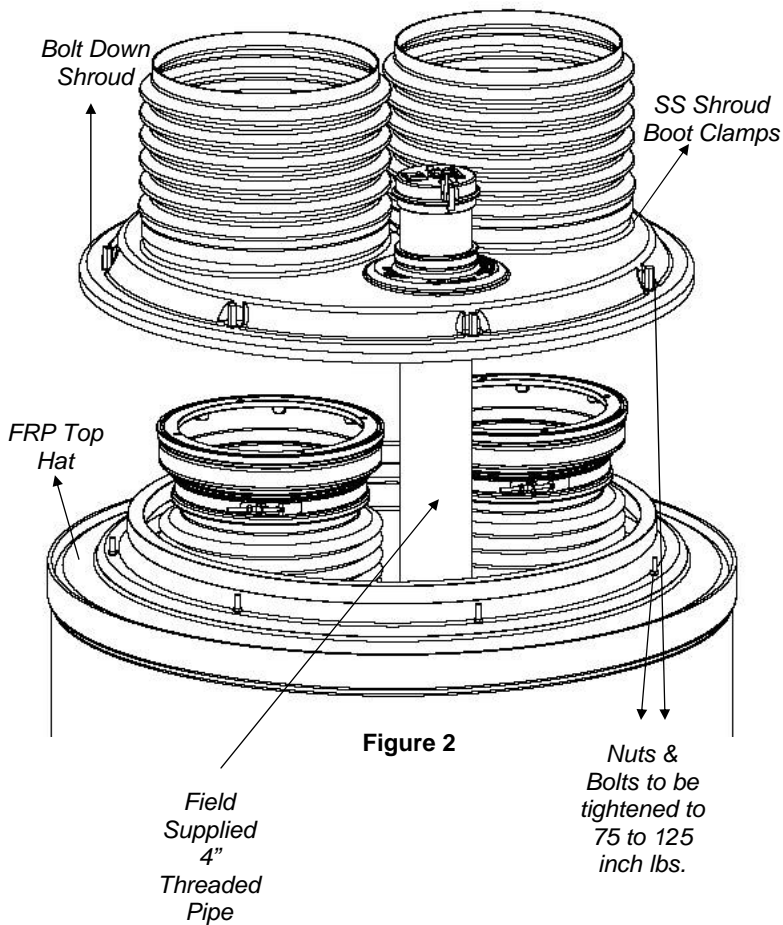

Figure 2
3. Connect the bottom of the shroud boots to the fiberglass cover using the large band clamps. Tighten the clamps to 60 in-lbs. **See Figure 2.**